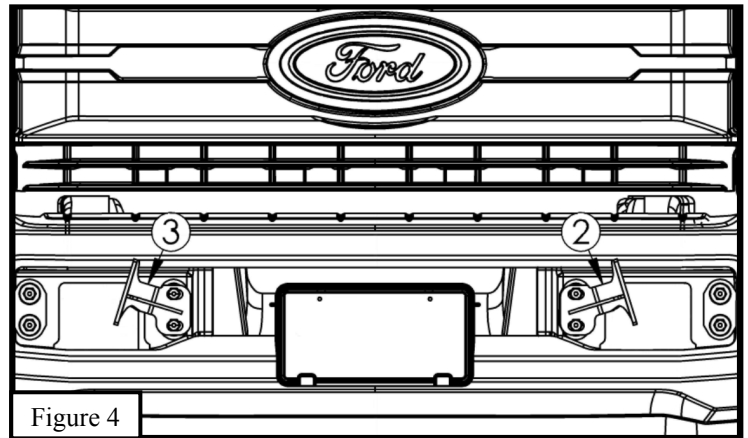

Figure 1
2. Starting on either side, use a flathead screw driver to remove the plastic covers located around the factory tow hooks. Repeat for other side. See **Figures 1 and 2.**